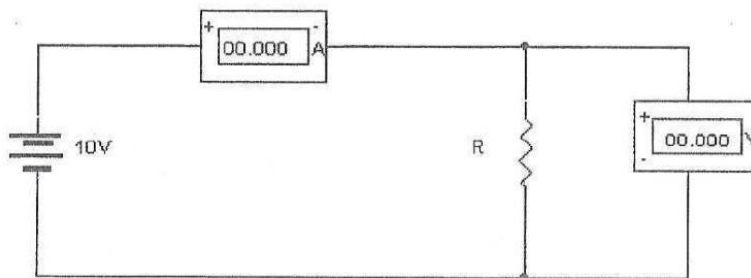

FIG. 1
- A. Connect the circuit of FIG. 1 using R_5 as the resistor.